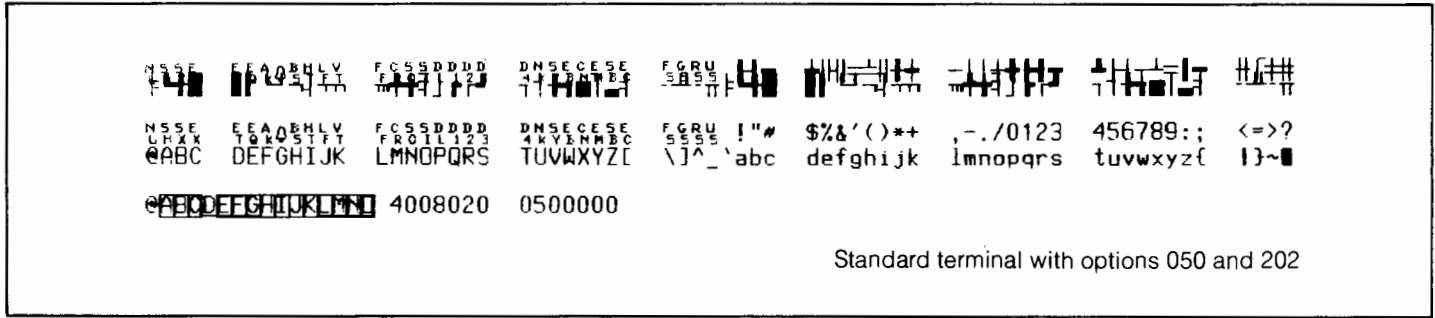

Figure 6-2. 2622A Terminal Test Pattern
Following the graphics test, the softkeys are blanked and the message " TESTING!" will be displayed. When the test is completed, the function key labels and cursor are returned to the screen, the test pattern (figure 6-2 or 6-3) is displayed, and the bell is sounded. The test consists of the following checks, performed in the sequence listed below:
- 5. Character ROM test checks and displays all characters configured for the terminal (see figure 6-2 or 6-3).